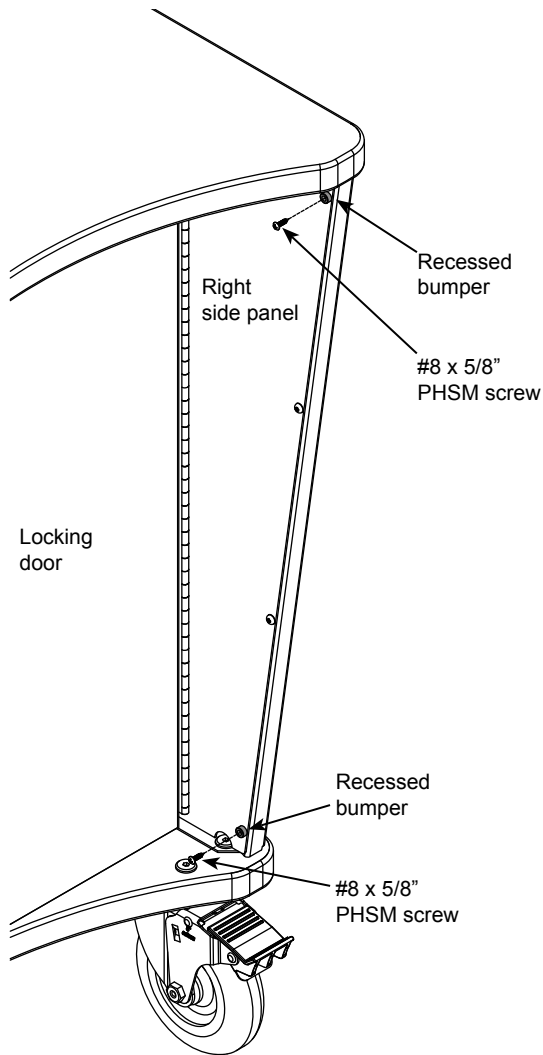

Figure 2A
1. With the door closed, remove the (2) existing #8 x 5/8" PHM screws from the right side panel. See **Figure 2A** for 36"H lecterns, see **Figure 2B** for 42"H lecterns.